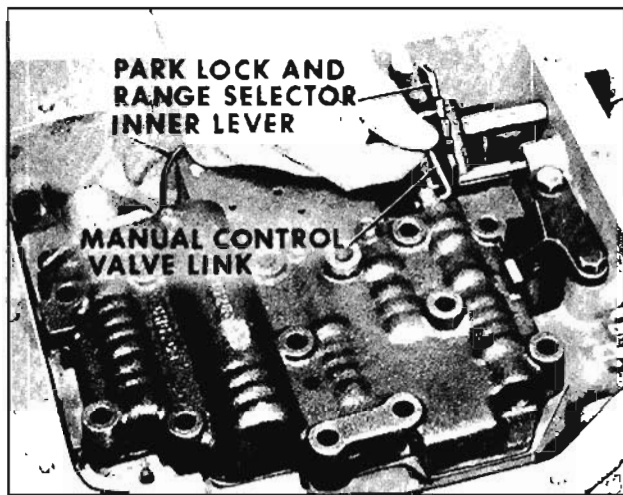

Fig. 6-268 Removing Inner Lever
9. Remove manual control valve link by rotating valve body in a counterclockwise direction to remove link from Park lock and range selector inner lever. (Fig. 6-268)